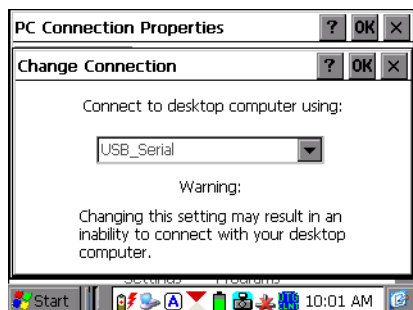

Figure 4-2. Change Connection Dialog Box
3. Tap **Change Connection**. The *Change Connection* dialog box displays (Figure 4-2).